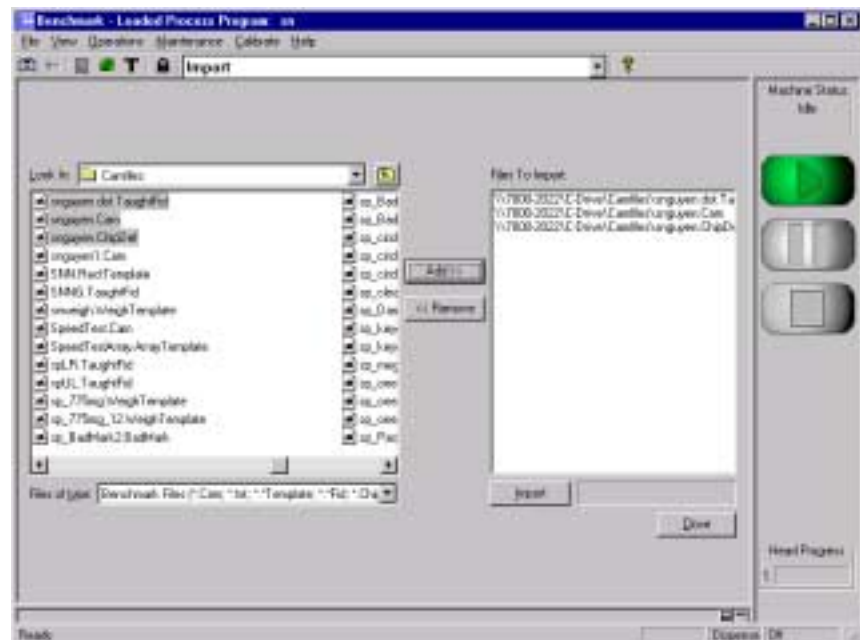

Figure 8-4
1. Select **File>Import** from the **Machine** screen. See Figure 8-4.
3. Select the files to be imported from the left-hand column. In Figure 8-4 three files are selected.